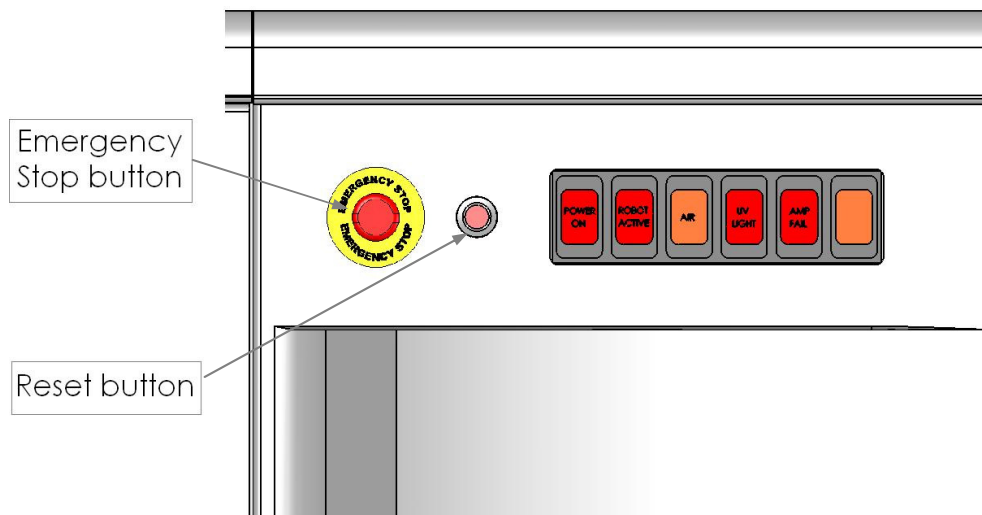

Figure 7:
The location of the Emergency Stop button is shown in Figure 7 (Page 15). Striking the Emergency Stop button will **immediately** stop the machine and cut power from the drives. The button must be pulled out before the machine can be restarted.
- Check that the Emergency Stop button (see Figure 7 on page 15) is released (pulled out). ClonePix FL will not start if the button is pushed in.